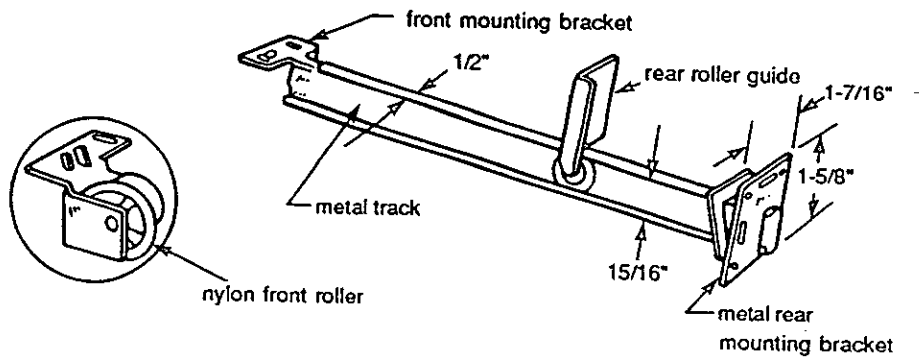

Fig. 2
1. Mark vertical center line (B) on drawer back. (See Fig. 2)